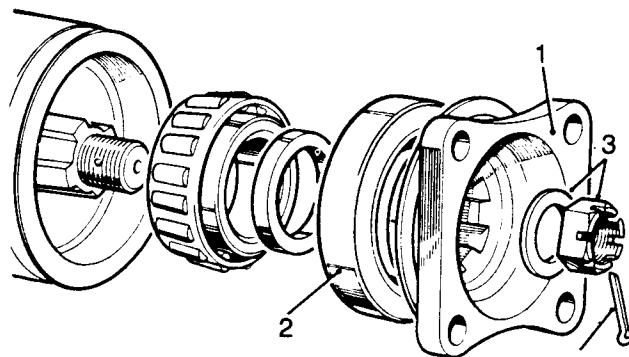

Fig J2.58
- (6) Refer to Fig J2.58. Remove the pinion driving flange (1).
- (7) Smear the outside diameter of the pinion oil seal (2) with jointing compound.
- (8) Fit the seal, lipped side inward.
- (9) Fit the driving flange.
- (10) Fit the flange securing nut and washer (3). Torque 117 N.m.
- (11) Secure nut with split pin.